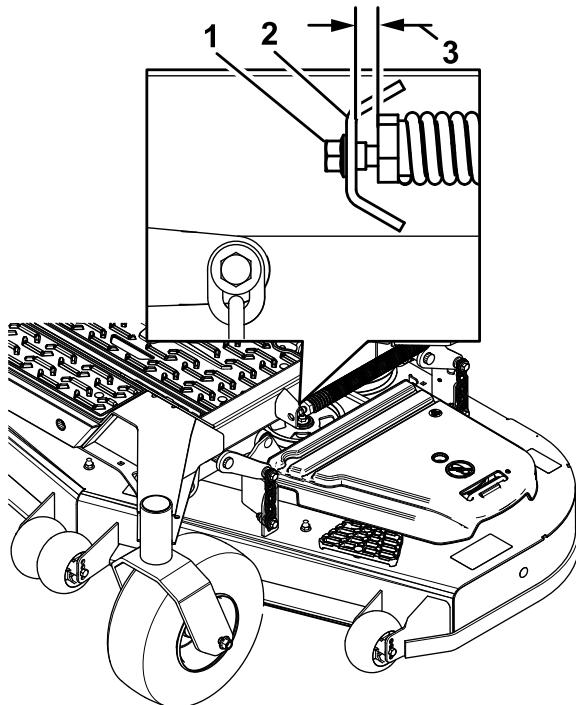

Figure 92
10. Slowly loosen the adjusting screw on the lift-assist spring until you can remove the screw (Figure 92).